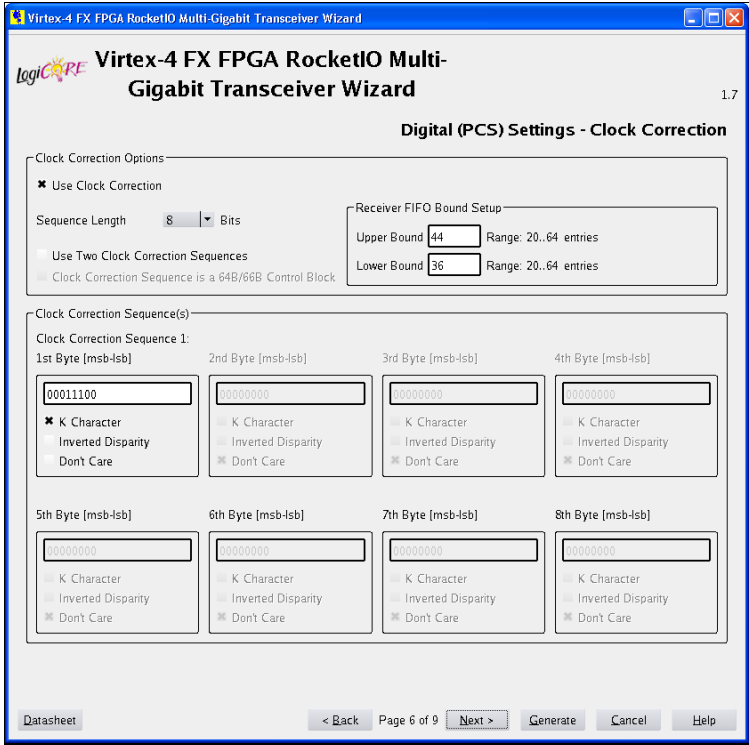

Figure 3-10: Virtex-4 FX FPGA RocketIO MGT Wizard - Page 6
Page 6 of the Wizard (Figure 3-10) is for selecting the clock correction settings of the physical coding sublayer (PCS).
5. See Figure 3-10, page 30.